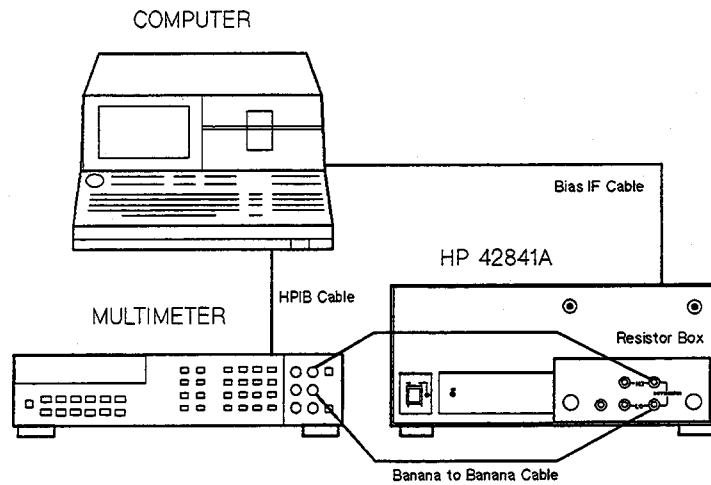

Figure 2-2. DC Bias Current Accuracy Test Setup
7. Perform the test according to the program's instructions. Figure 2-2 shows the instrument setup for the test. Table 2-1 lists the test points and the test limits. The performance test program is described in Paragraph 1-6.